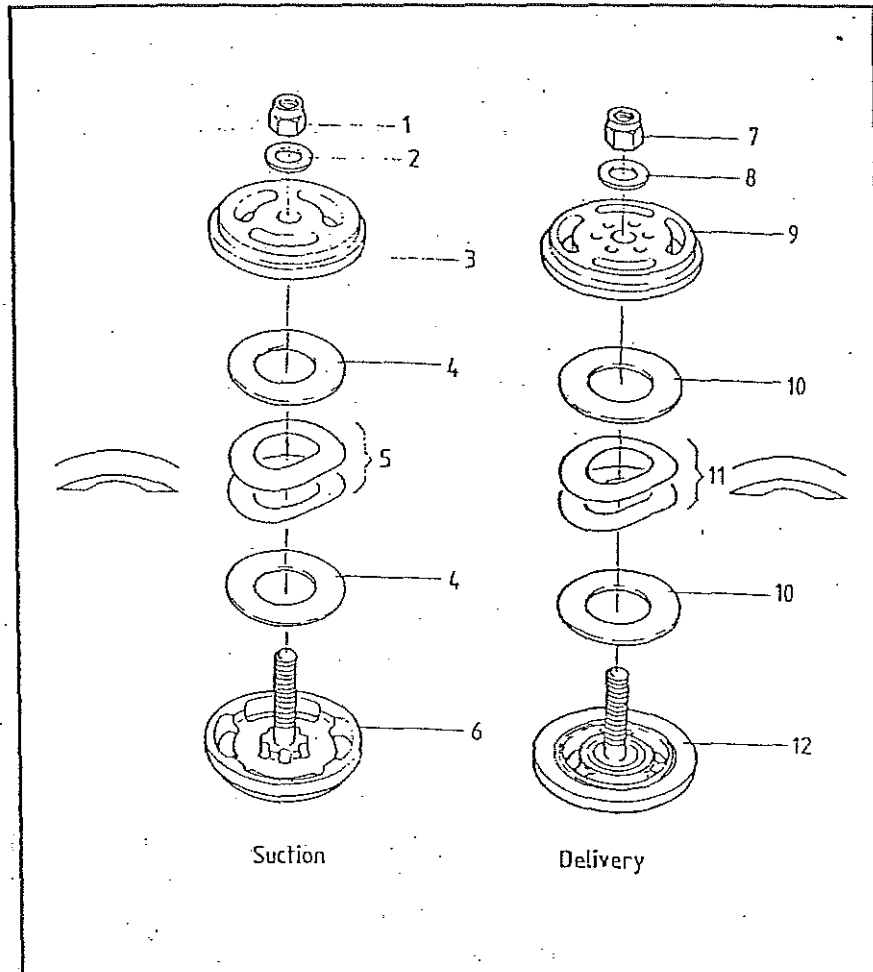

FIGURE 13-5 SECOND STAGE VALVES
13.3.2.6 SECOND STAGE SUCTION VALVE OVERHAUL (FIGURE 13-5)
Fit plate (4) to base (6). Arrange springs (5) as shown in Figure 13-5 and fit to the base, followed by suction plate (4). Carefully centralize the suction plate (4) and springs (5) and fit valve seat (3). Holding the valve halves in firm contact, fit washer (2) and fit and tighten nut (1). Do not tighten the nut if the valve halves do not make full contact, separate and re-align plate and springs.
(FIGURE 13-5)**
Place upper half of valve body (9) on a tubular support. (Note that this is not part of the valve assembly). Place plate (10) into the valve body. Arrange springs (11) as shown in Figure 13-5 and place in the valve body followed by delivery plate (10). Carefully centralize the springs and plate and fit valve seat (12). Ensuring the valve halves are in firm contact, fit and tighten washer (8) and nut (7). Do not tighten the nut if the valve halves do not make full contact, separate and re-align the plate and springs.